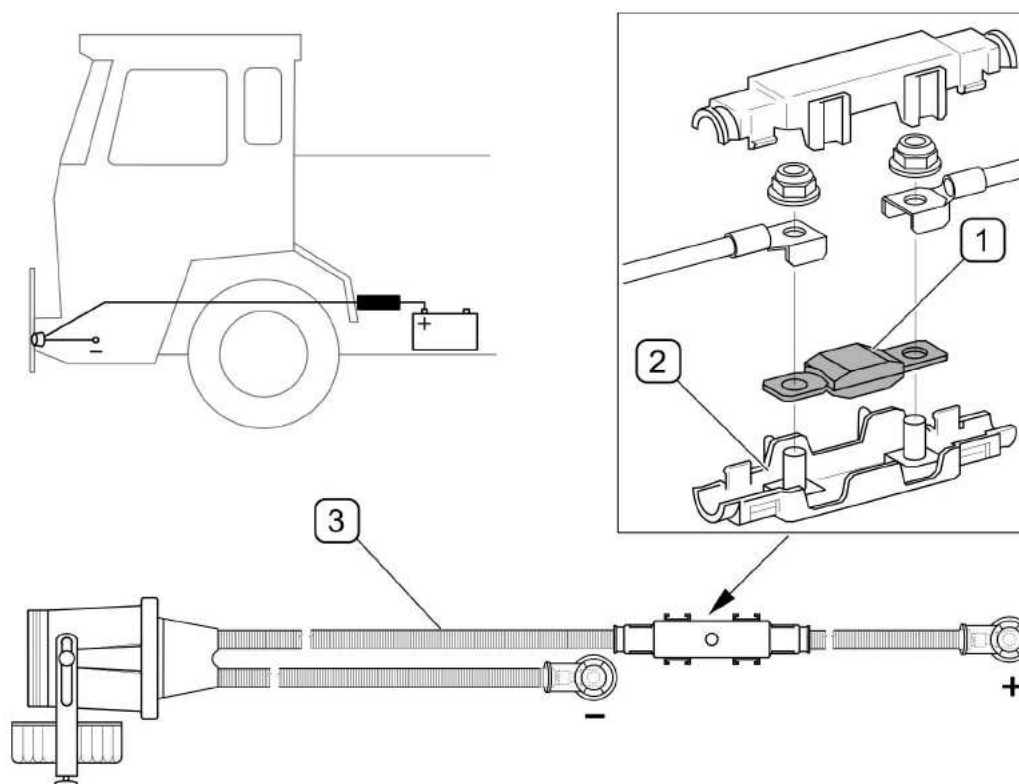

FIG. 5.6 Fuse of the carrying vehicle's electrical system
(1) - 20A MAXIVAL fuse ; (2) - housing; (3) - fuse base
If the vehicle's electrical system is equipped with a 220N-70020000 supply wiring harness made by PRONAR, additional 150A MEGAVAL fuse (1) is located inside the housing (2) on „+” supply conduit FIG. 5.6).